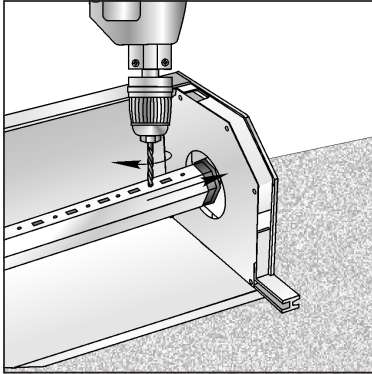

Fig. 13
- f) Fix rollers using M5 screws with nuts (Fig. 13);